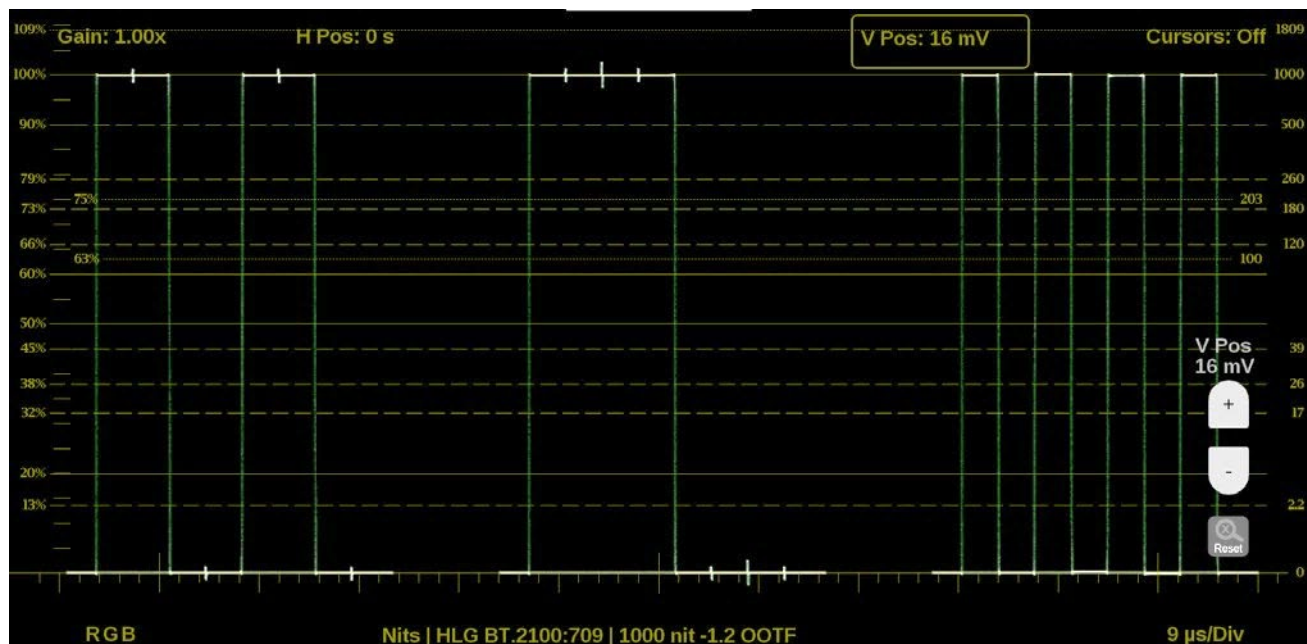

Figure 103: Waveform on-screen tools – vertical position
2. Select the **V Pos** button to adjust the vertical trace. (See Figure 103.)